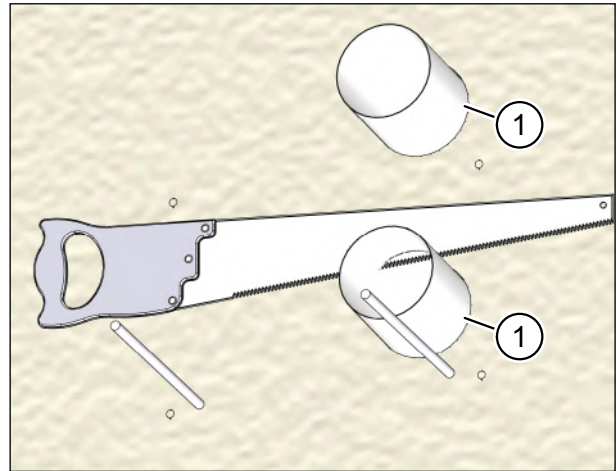

Fig. 19: Cutting ventilation pipes on internal wall to length
- ▶ Cut the ventilation pipes (item 1 in Fig. 19) to length on the internal wall so that they end flush with the internal plaster.